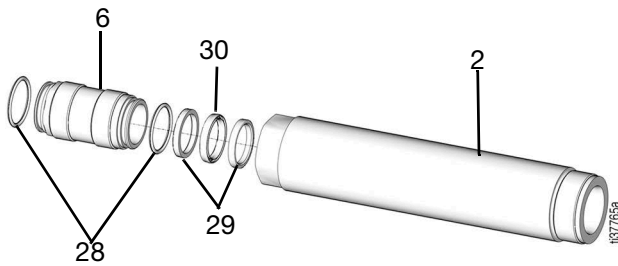

FIG. 29
- Remove the seal retainer (6) from the pump cylinder (2) (FIG. 29).
- Remove the priming seal (30) and the priming seal back-up rings (29) and replace with new parts from the seal repair kit (FIG. 29).
13. Replace the o-rings (28) on the seal retainer (6) using the parts from the seal repair kit (FIG. 29).